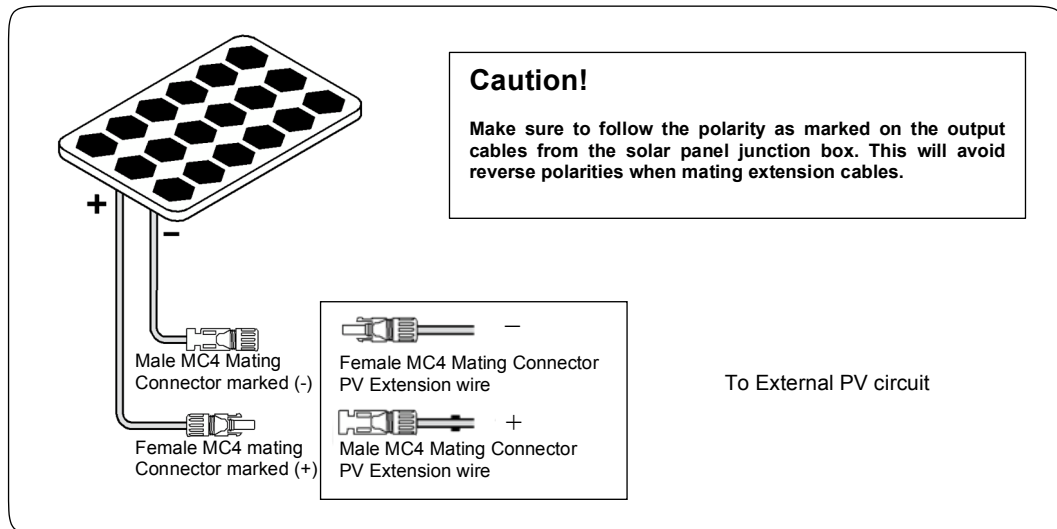

Fig 5.4. Connecting extension wires to the output wires of solar panel.
Fig. 5.4 shows the output wires and connections of a solar panel. The output wires from the junction box of the solar panel are terminated with the help of MC4 connectors. The Positive (+) wire is terminated with a MC4 Female Connector (marked "+") and the Negative wire are terminated with a MC4 Male Connector (marked "-").
5.4. Extending to the Output Wires of the Solar Panel (Fig. 5.4)
1. The Positive (+) wire of the solar panel is terminated with an MC4 Female Connector (marked "+"). Connect this cable to the MC4 Male Extension wire as shown in **Figure 5.4**. Make sure that the locking tabs "snap in" for a firm connection. The bare end of the Positive extension wire will now be of Positive polarity. **Use a piece of red sleeve or red tape near the bare end for identification as the Positive (+) wire.**
2. The Negative (-) wire of the solar panel is terminated with a MC4 Male Connector (marked "-"). Connect this cable to the MC4 Female Extension wire as shown in **Figure 5.4**. Make sure that the locking tabs "snap in" for a firm connection. The bare end of the Negative extension wire will now be of Negative polarity.